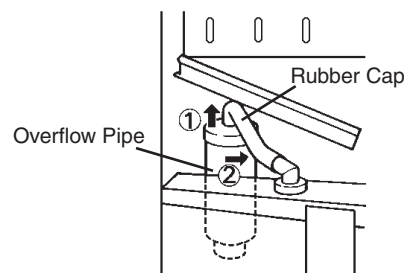

Fig. 3
- 3) Drain the water tank by removing the insulation panel and the rubber cap covering the overflow pipe in the water tank. Remove the overflow pipe by turning it counterclockwise. See Fig. 3.